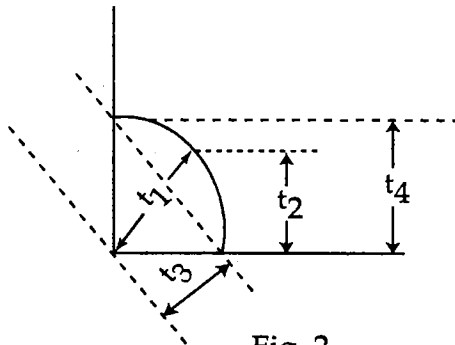

Fig. 2
- (d) In the following fillet weld, (Fig.2) the throat thickness of the weld is :